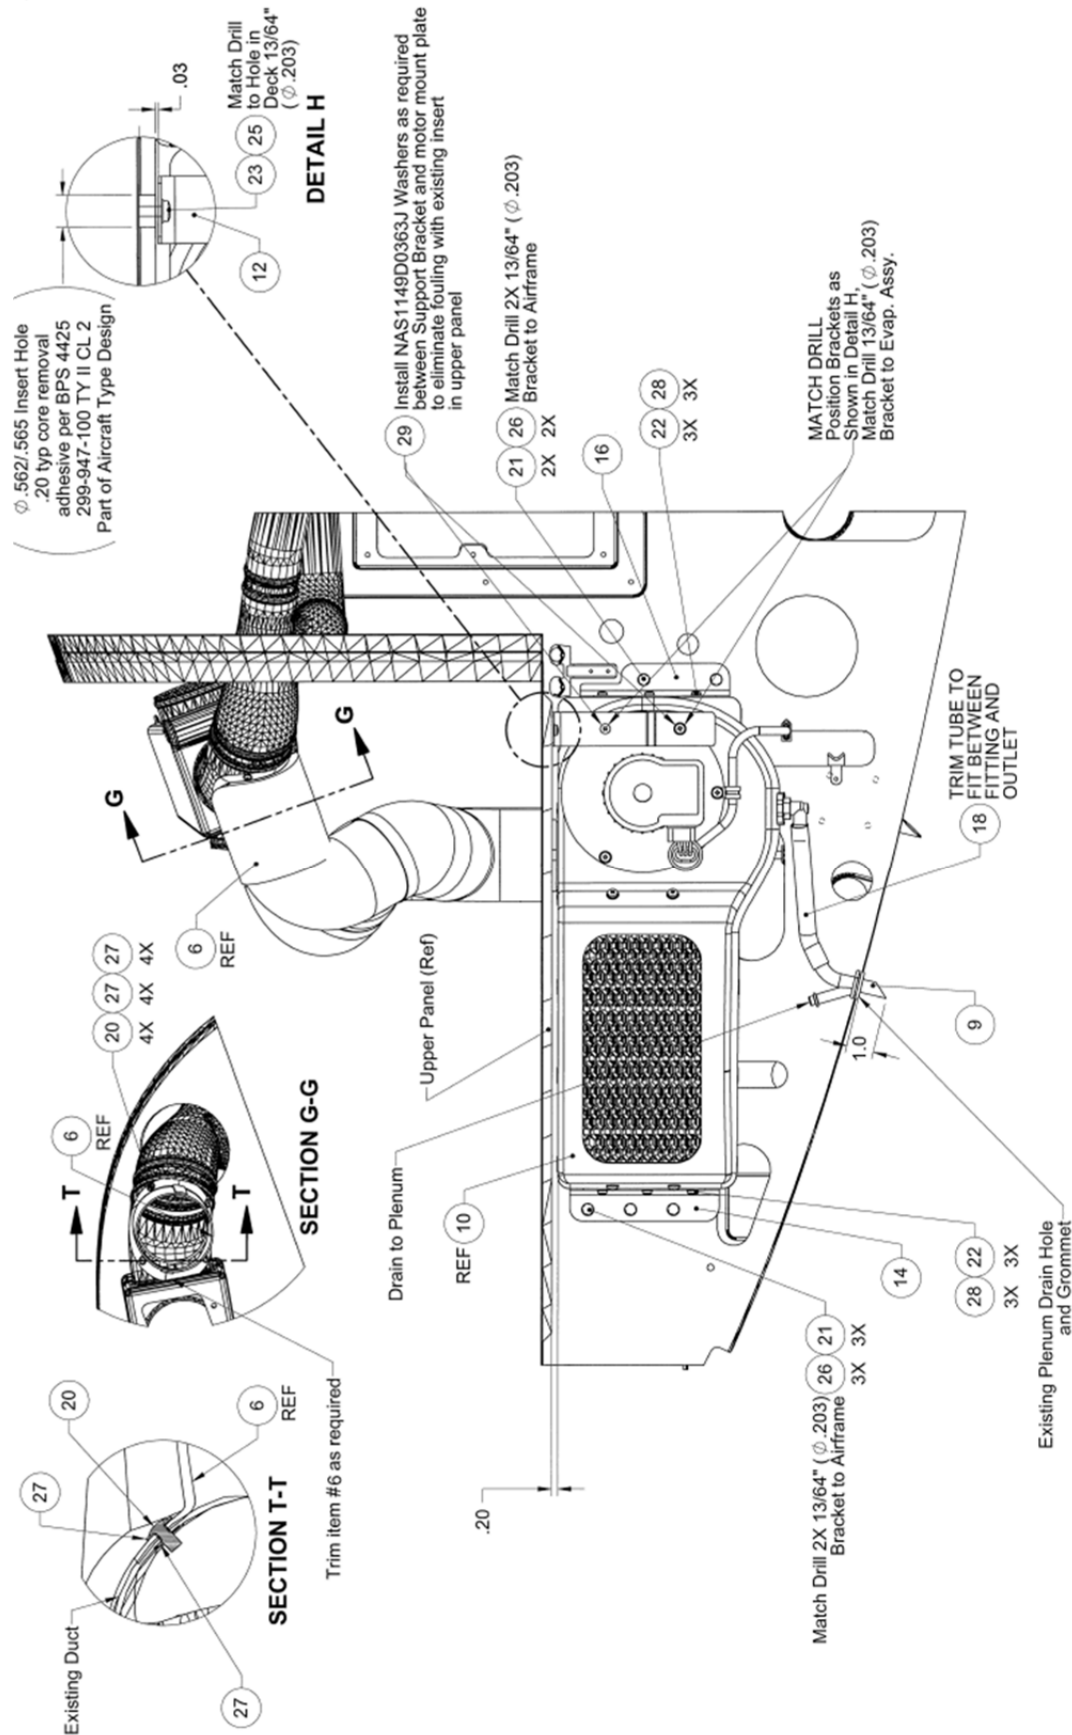

Figure 8: LH Fwd Evaporator – Section C-C Looking Inboard
- b. Install LH forward evaporator as follows (Figure 8):
- 5) Attach -5 to existing ducting using GE RTV100 (Black) or equivalent, AD42ABS rivet and NAS1149FN416P washers as shown in Figure 8, Section T-T.